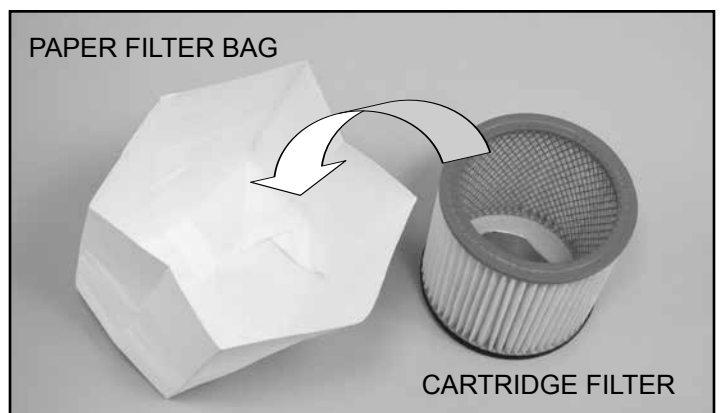

FIG. 7
5. To replace the filters, follow steps 1-3 outlined on pages 8 and 9. FIGs. 1-3. FIG. 7.